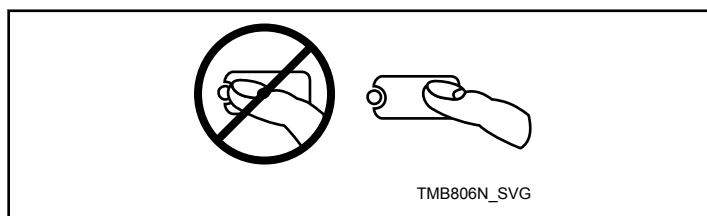

Figure 30
**NOTE: Do not press directly on lights or the center of pad. For proper selection, press on pad slightly to the right of center. Refer to Figure 30 .**